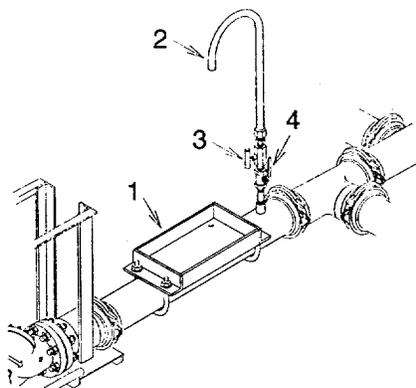

Figure 2-19. Fuel Sampling at Switching Manifold
- (1) Sampling and Testing to Determine Cut. Testing will determine when interface has arrived and passed.
- (a) Take samples at sampling assembly (figure 2-19) and test in accordance with portable test kit.